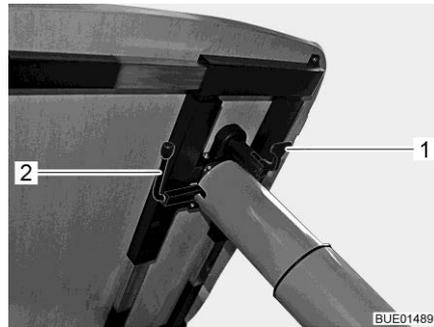

Fig. 76 Adjustment of lift-off table
- Fold lever (Fig. 76,1) downward.
- Swivel the lever (Fig. 76,2) underneath the table top by 180° in a clockwise direction. The lifting mechanism in the table leg is unlocked.
- Swivel the lever (Fig. 76,2) underneath the table top by 180° in a clockwise direction. The table top moves automatically upwards to the limit stop.